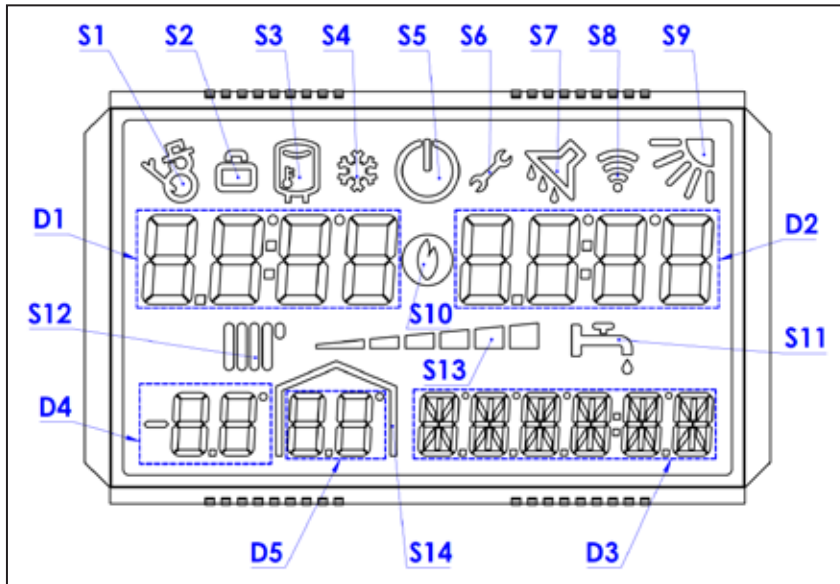

Fig. 6.4 LMC201 control panel display
- LCD type display, where the messages (graphic symbols) of communication with the heating unit are displayed: The meaning of the symbols and the display of the digits is presented in tab. 6.4 and fig 6.4.